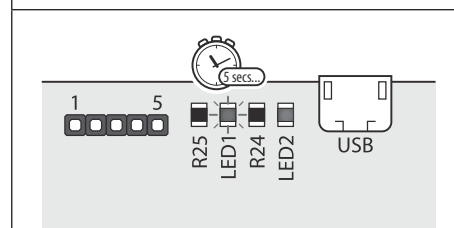

Fig. 38
5. The red LED (LED1) will start to flash again while the green LED (LED2) stays **ON**, for a further 5 seconds, as shown in **Fig.38**;